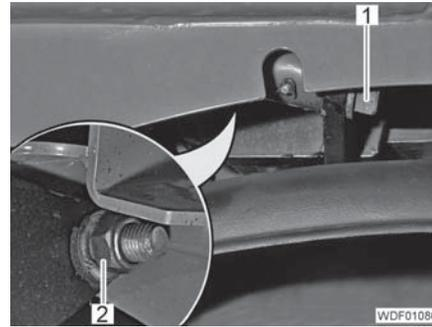

Fig. 345 Cab attachment (rear)
- Drive in the hinge pins (Fig. 345,1) with washer from the front.
- Screw the nut (Fig. 345,2) with washer onto the hinge pin and tighten it so that the hinge pin can still be rotated.